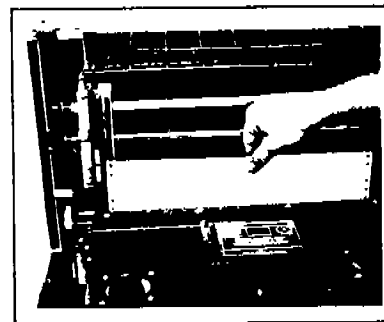

Figure 6
- Raise paper to the tractors, keeping paper vertical (figure 6). If sprocket holes in paper do not match the distance between tractor feed pins, loosen knurled nuts on tractors and slide tractors sideways as